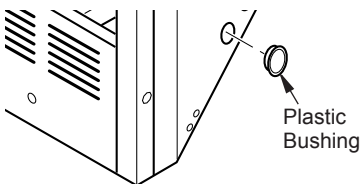

Figure 4 - Installing Plastic Bushing for Power Cord
- a. **If your firebox is installed as a freestanding unit**, determine whether the power cord will exit the left side or the right side of the firebox. Install 1 plastic bushing provided into the 1 1/2" hole in the floor support on the exit side. Install the second plastic bushing provided into the 1 1/2" hole in the outer casing through which the power cord will exit (see Figure 4). Route power cord through both plastic bushings and plug the power cord into a 3-prong grounded wall receptacle near the firebox.